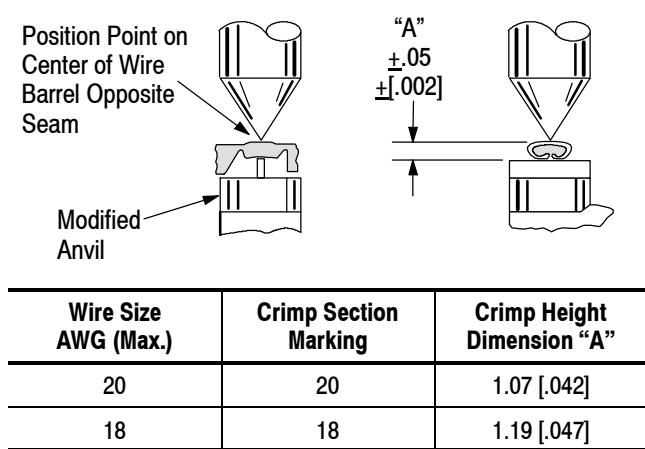

Figure 4
1. Refer to Figure 4 and select a wire (maximum size) for each crimp section listed in the table.
3. Using the crimp height comparator, measure the wire barrel crimp height as shown in Figure 4. If the crimp height conforms to the dimensions provided in Figure 4, then the tool is considered dimensionally correct. If the crimp height does not conform to the dimensions provided, the tool must be adjusted. Refer to Section 7, RATCHET (Crimp Height) ADJUSTMENT.